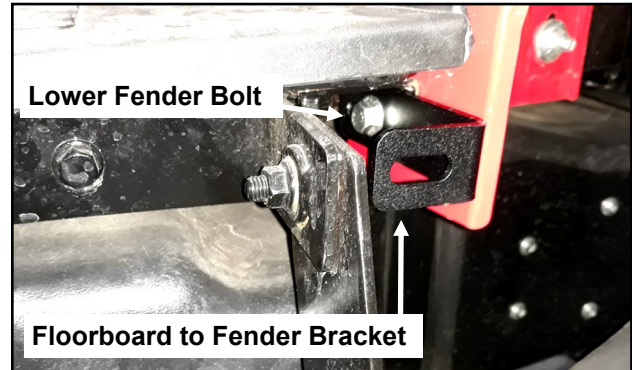

Fig. 3.1 (Floorboard-to-Fender Bracket Orientation)
3.1 Remove the left side lower fender bolt and reinstall ***finger tight only*** with the supplied floorboard-to-fender bracket as shown in Figure 3.1.